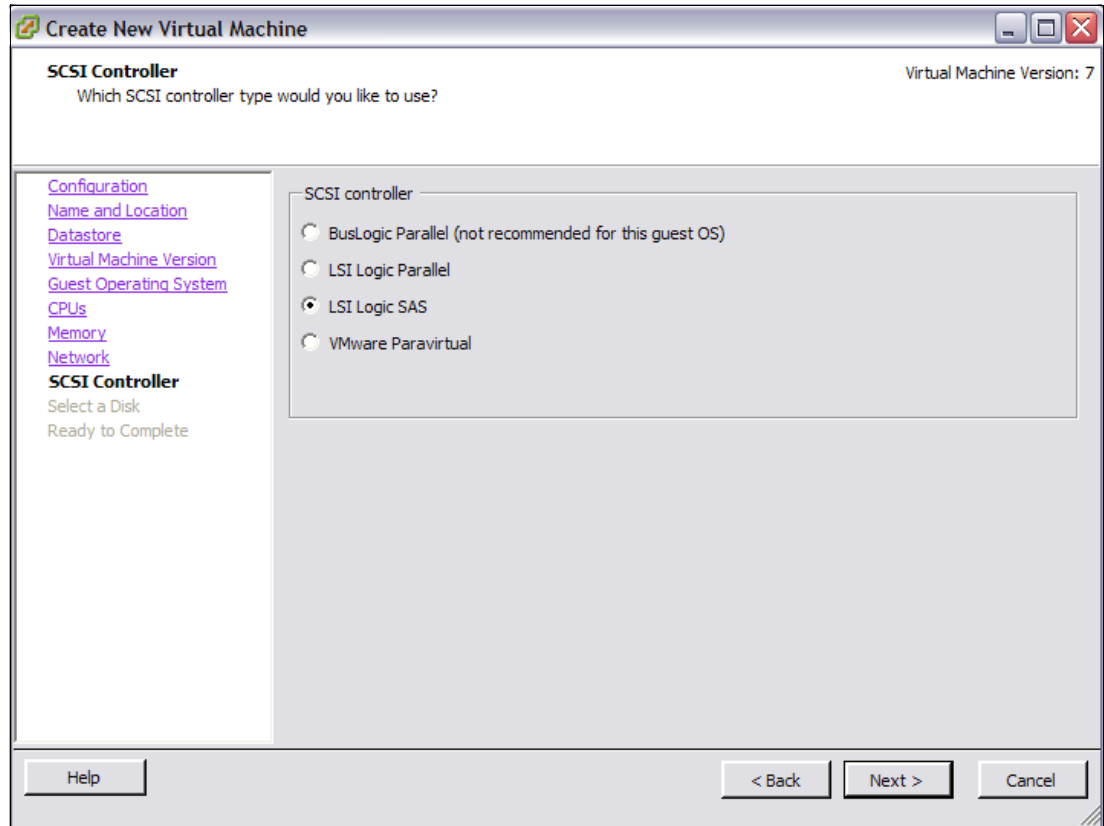

Figure 22-81 VM SCSI Controller type
11. In the SCSI Controller Types window (Figure 22-81 on page 713), select the controller based on the OS requirement. In our example, we select the LSI Logic SAS SCSI controller. Click **Next**.